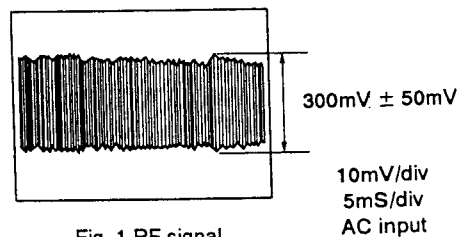

Fig. 1 RF signal
3. Adjust VR601 so that the amplitude of the RF signal becomes $300\text{mV} \pm 50\text{mV}$. (Fig. 1)